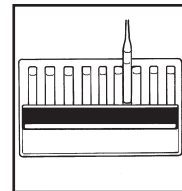

Figure 4
b. High Range Comparator (fig. 4):